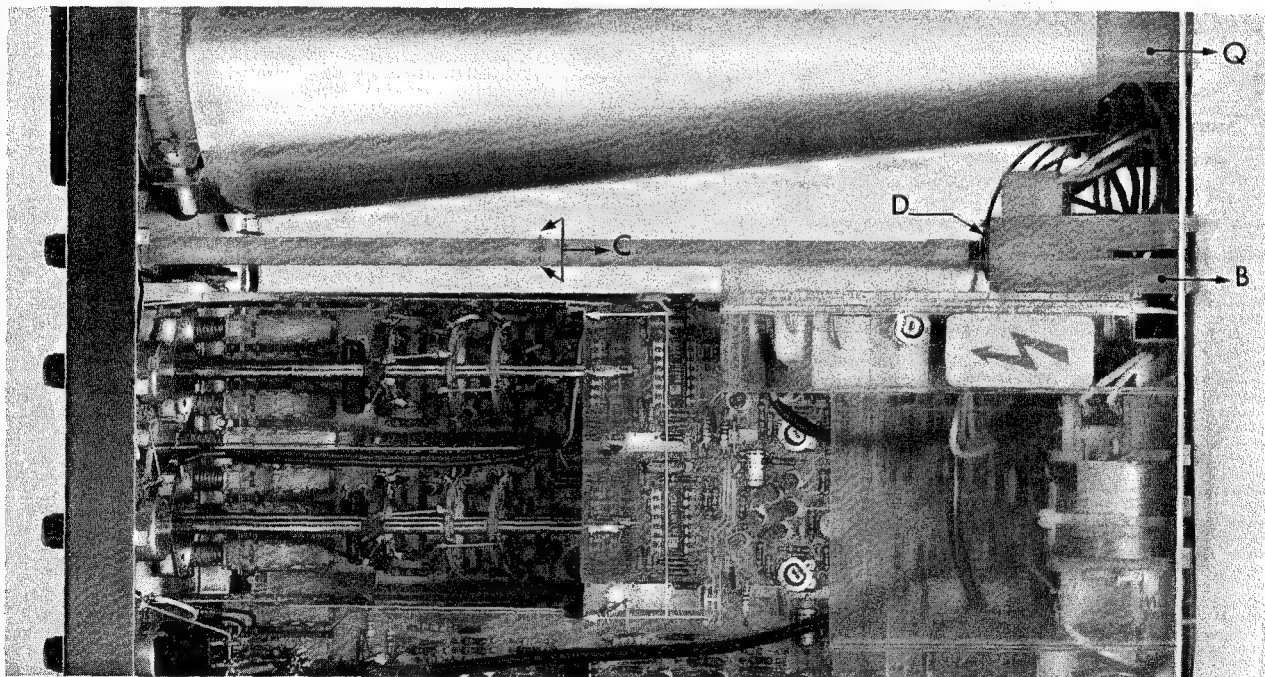

Fig. 2.6. Dismantling
- spring out nylon brackets B (Fig. 2.6.) through the holes of the rear panel.
- simultaneously rotate spindle C (Fig. 2.6.) and pull to withdraw square through alignment hole.
- unscrew hexagonal nut D (Fig. 2.6.) to remove potentiometer.
- unhook attenuator screening side plate(s) by pressing in the rear screening plate (H) at the top edge (see Fig. 2.6.).
- spring the two nylon bracket lips Q (see Fig. 2.6.), at rear of tube, inwards and taking care of mumetal screen, withdraw the c.r.t. through front panel sufficiently to allow the c.r.t. base connector to be removed. (Push in nylon bracket to assist.)